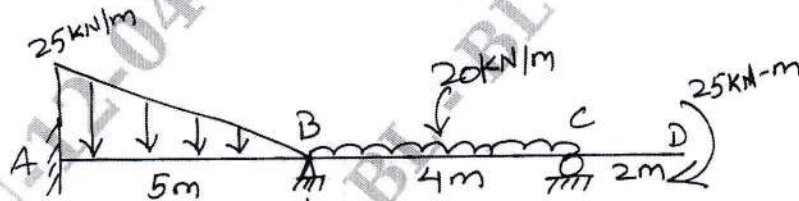

Fig.Q10
- 10 Analyze the beam shown in Fig.Q10. By stiffness matrix method, the support B sinks by 10 mm. Take $E = 2047 \text{ kN/m}$, $I = 4162 \times 10^4 \text{ mm}^4$.